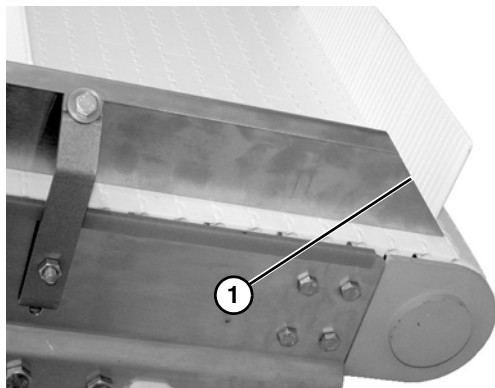

**Figure 30**
3. Attach guide (**Figure 30, item 1**) to the mounting brackets with hex bolts and spacers (**Figure 30, item 2**). Hand tighten only at this time.
4. Ensure that nose of bracket slips under the lip of guide (**Figure 30, item 3**).